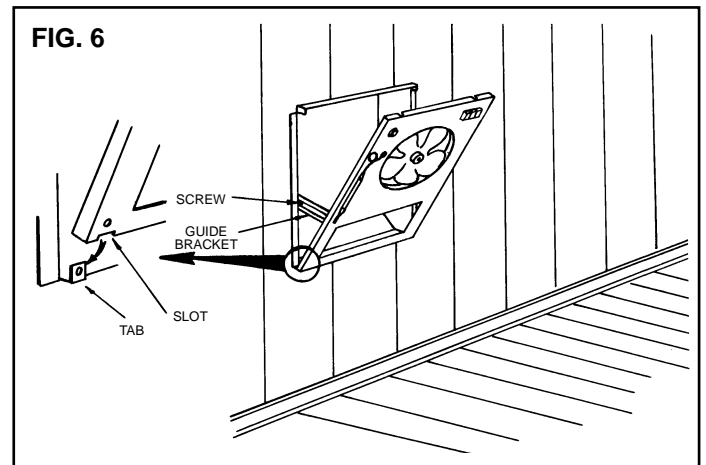

FIG. 6
- Place heater assembly in housing by slipping the two slots in the bottom of heater assembly over the two tabs provided on the housing as shown in Fig. 6. Tilt unit up until pin in housing is centered in large area of slot in guide bracket, if installed. Push guide bracket over pin and tilt heater assembly back down until it rests on end of slot in guide bracket.